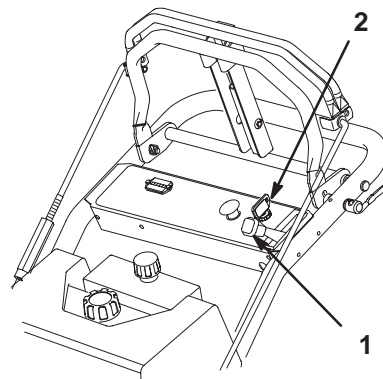

Figure 10
5. Move the throttle lever to the slow position (Fig. 10).
6. Turn the ignition key to off (Fig. 10).